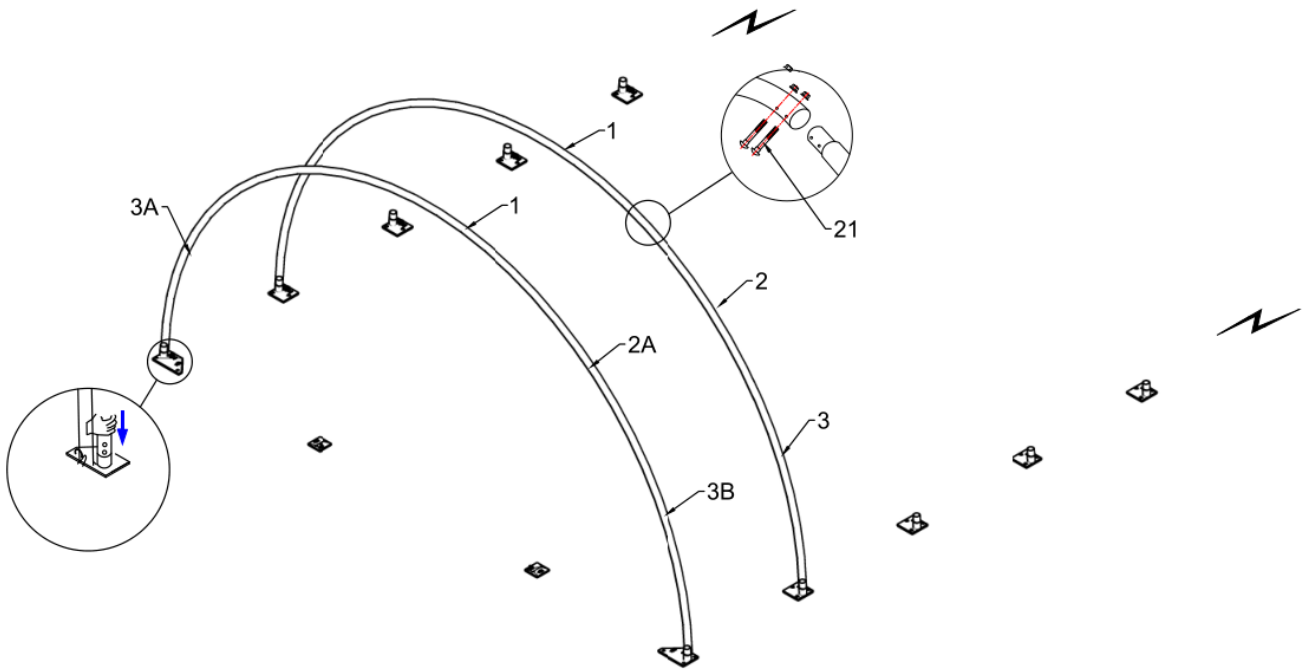

Figure 5
1. Figure 5 shows to connect the Roof bent tube(No.1), middle bent tube(No.2), lower bent tube(No.3) with Carriage Screw M10x90 (No.21), then put the arch into tube of the Base flange by hoist, and assemble every group arch by turns(see Figure 6)